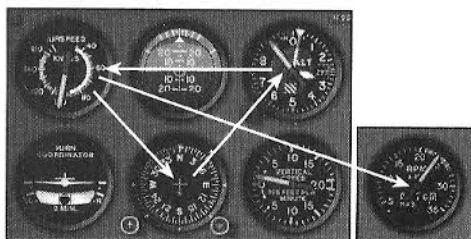

Figure 5.16 *The scan for leveling off from a climb at cruise airspeed.*
1. To level off from a climb to cruising airspeed (figure 5.16), lower the nose on the attitude indicator.